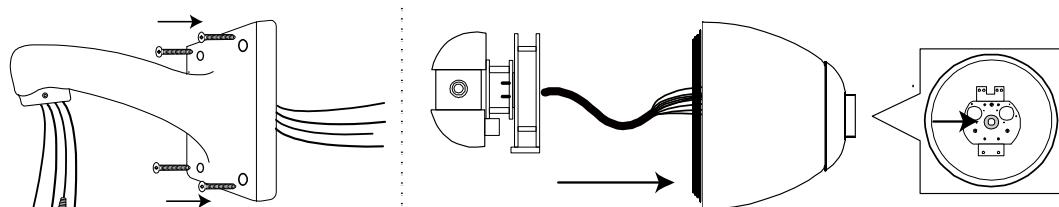

Figure 1
Step 2: Arrange the position of the cables on the wall, pass the cables through the bracket, and secure the bracket to the wall with four screws (Figure 1).